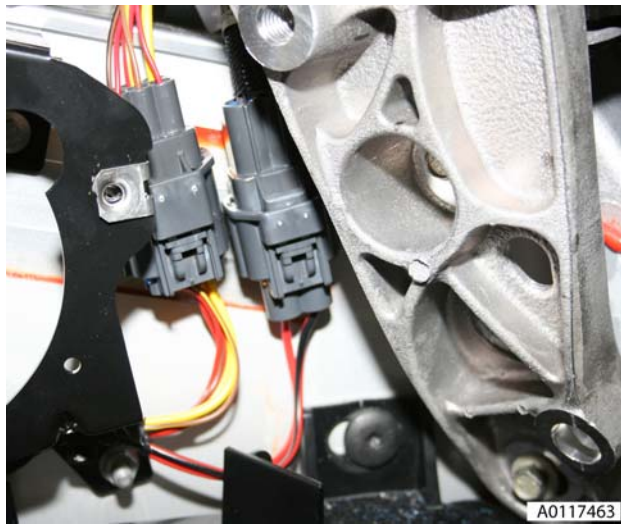

Figure 7
13. Disconnect multiplug (RH).
14. Release harness/pipe retaining clips (x3) (RH).
15. Disconnect multiplugs (x2) and feed into tonneau area (LH) (see Figure 7).